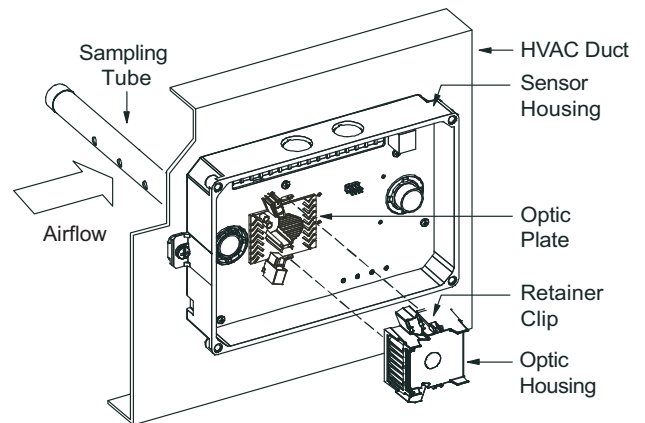

Fig. 54 — Sensor Cleaning Diagram
1. Disconnect power from the duct detector then remove the sensor's cover. See Fig. 54.